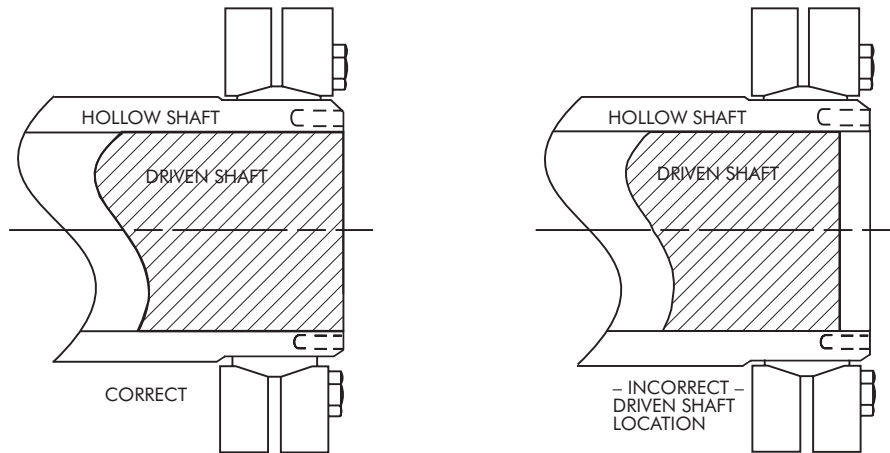

Figure 3 – DRIVEN SHAFT LOCATION
3. Suspend and slide the gear drive into its proper position on the driven shaft (Figure 3, Page 2).